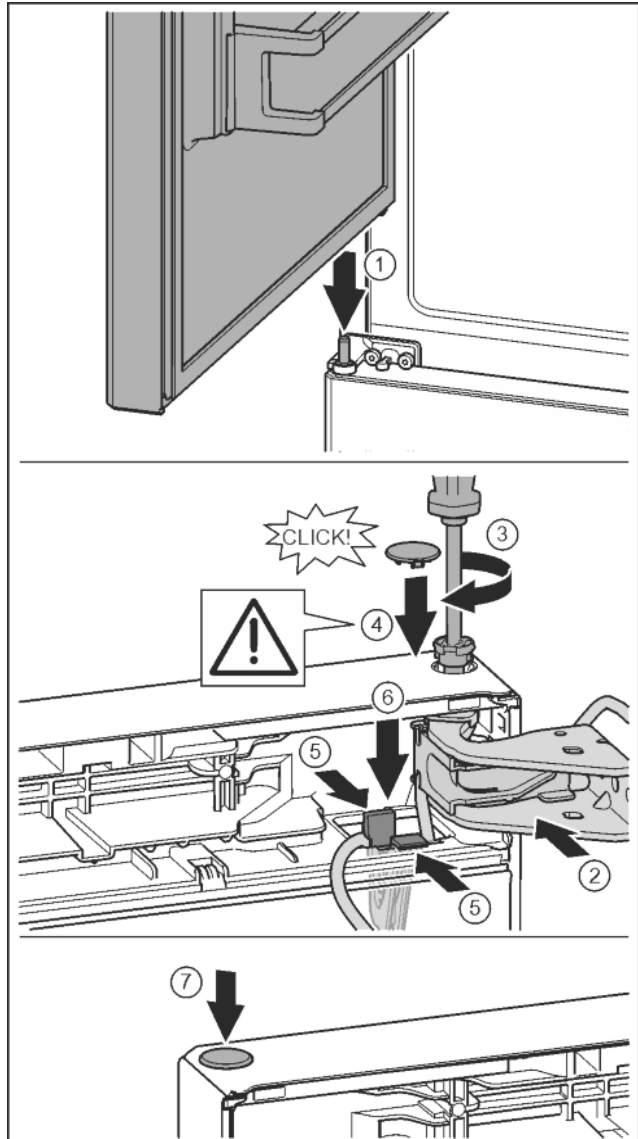

Fig. 35
- ▶ Place the upper door on the middle mounting bolt Fig. 35 (1)
- ▶ Align top of door with aperture in mounting block. Fig. 35 (2)
- ▶ Insert the bolt and tighten with a T15 screwdriver. Fig. 35 (3)
- ▶ Fit protective cover to protect the door: Insert the protective cover and check that it is attached to the door. If not, insert the bolt fully. Fig. 35 (4)
- ▶ Insert the holder with its cable into the opening. At the same time, the lug with the longer opening must point forward. Fig. 35 (5)
- ▶ Press the bracket downwards until the lug clicks into place. Fig. 35 (6)
- ▶ Insert the plugs. Fig. 35 (7)